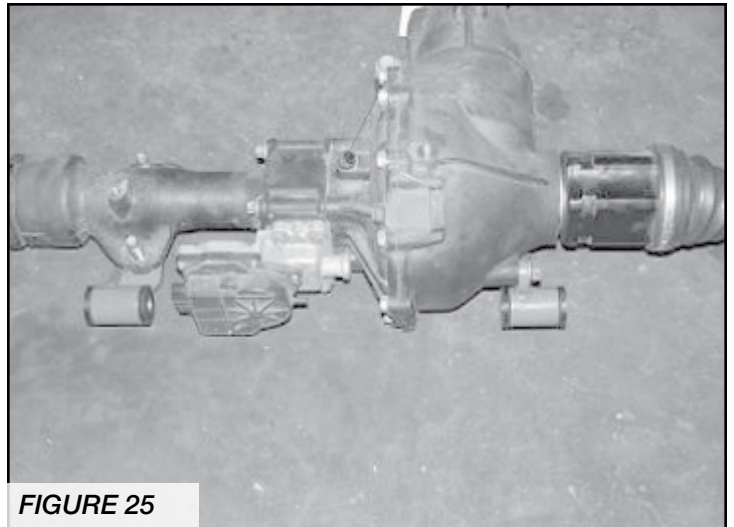

FIGURE 25
18. Locate the front differential and remove the factory front mounts. Discard the mounts and save the hardware. Locate FT70053 Driver Diff mount, FT70054 Pass Diff mount, and FT70071 Bushing and Sleeve Kit. Install the four bushings and the two larger I.D. sleeves into the new mounts. Using the factory hardware and some of the supplied thread-locking compound, mount the new diff mounts to the front differential. Torque the hardware to 75 ft. lbs. **SEE FIGURE 25**